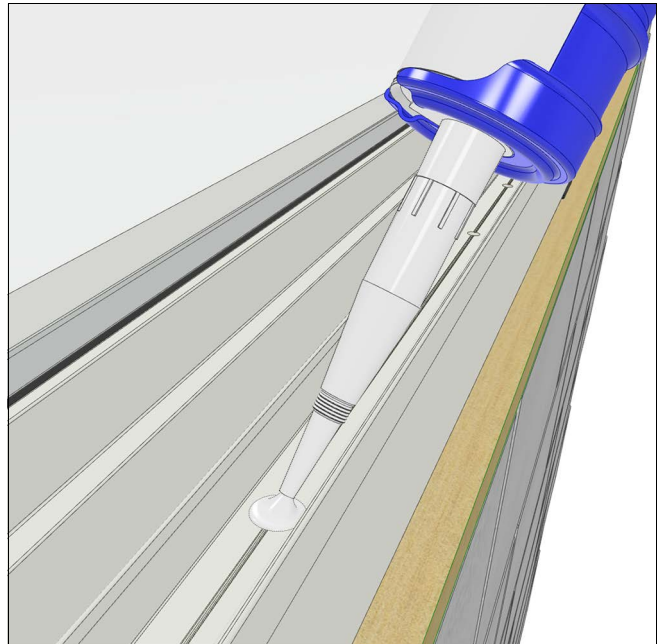

Figure 14
6. Inject sealant into and around the installation holes in the frame. See Figure 14.